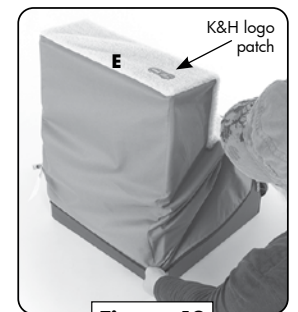

Figure 13
**12** While the 3-stair structure is still on its end, locate the cover and position it so the K&H logo patch is on the front of the first stair step where edges E are attached. Slide the cover over each of the 3 stair steps, one at a time working your way down. **See Figure 13.**
While the 3-stair structure is still on its end, locate the cover and position it so the K&H logo patch is on the front of the first stair step where edges E are attached. Slide the cover over each of the 3 stair steps, one at a time working your way down. **See Figure 13.**